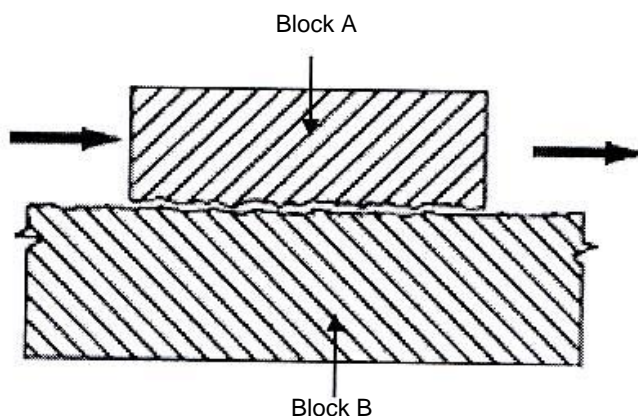

FIG 1.
- No matter how smooth a surface may seem to be to the naked eye, observed under a powerful microscope it is not really smooth at all. It has indentations and projections of various kinds, like hills, valleys and, sometimes, jagged edges as can be seen in Fig 1.
- Consider the two blocks as shown in Fig 1. If you moved Block A across Block B, you would feel a considerable amount of resistance to the movement. This resistance is called **friction**.